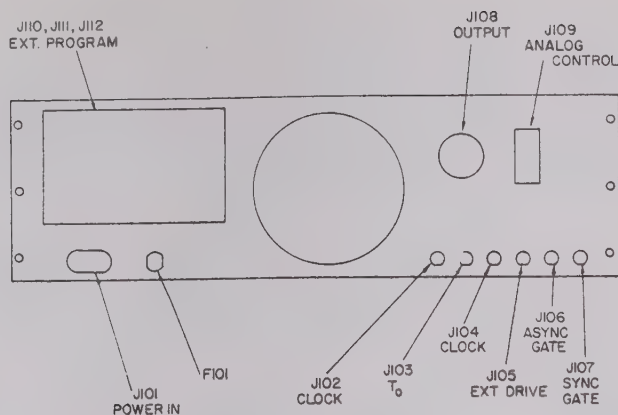

Figure 2-2 Rear Panel Connectors
b. Rear Panel Connectors (Refer to Figure 2-2)
(1) Trigger Output